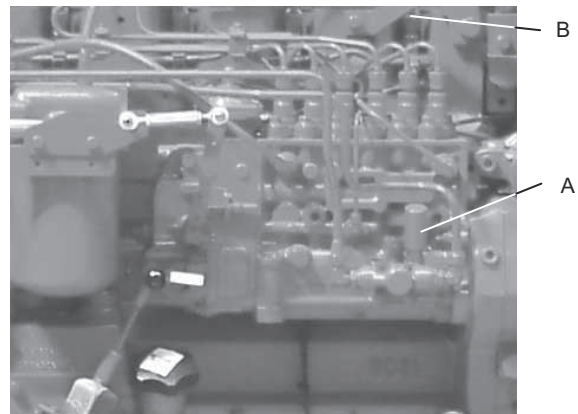

Fig. 55 Venting of fuel system through the diesel injection pump, JW6H
2. Operate the manual venting system (fig. 55, pos. A) of the fuel supply pump until the diesel fuel running out of the vent port does not contain air bubbles. Collect the fuel in a suitable container and dispose of it in an environmentally sound way.
1. Remove the connector (fig. 55, pos. B) of the fuel pipe from the first injection nozzle.